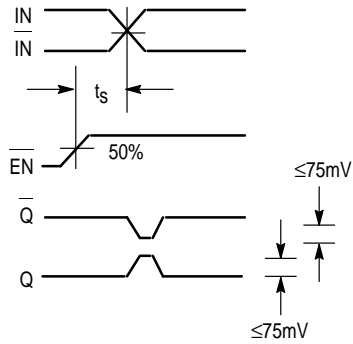

Figure 1. Setup Time
5. The setup time is the minimum time that EN must be asserted prior to the next transition of IN/IN to prevent an output response greater than ±75 mV to that IN/IN transition (see Figure 1).